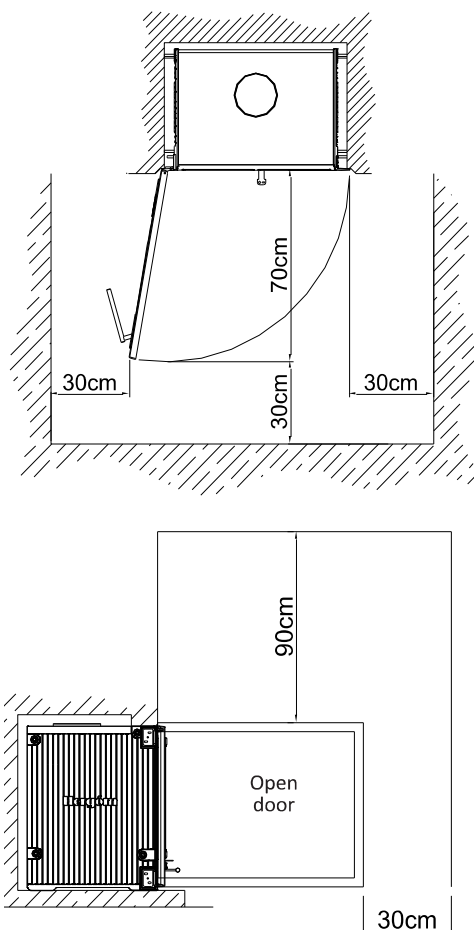

FIG. 9
- Keep any flammable material (furniture, curtains, clothes...) away from the fireplace, at a safe distance of at least 0,90m. (Fig. 9)